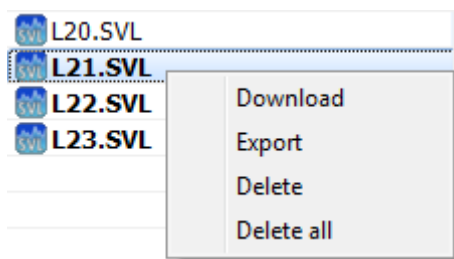

**Fig.3-5** The dialog box allowing to select the directory in the Svantek instrument’s memory from which files are displayed in the Download panel.
- *Change dir* – opens the *Change folder* dialog box, allowing to select a directory in the Svantek instrument's memory from which files are displayed in the Download panel (Fig.3-5). **Note:** It is not available for some types of Svantek instruments.